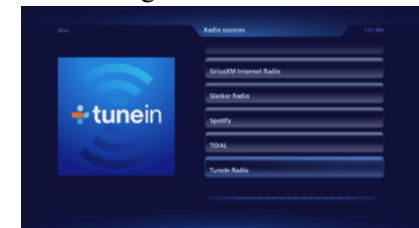

Figure 21
- Using the + (Up) or - (Down) Push-button on the Remote Control, select TuneIn Radio from the menu. Refer to figure 21.